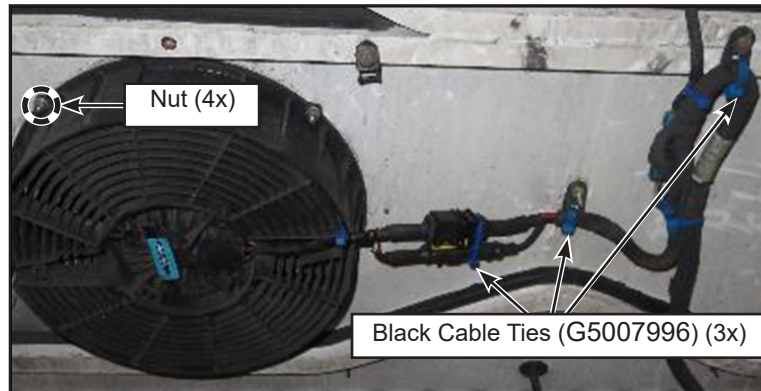

Figure 20 - Black Cable Ties Securing the Fan Wiring at Harness Side
- 1.36. Remove and retain the four nuts around the fan and rotate it clockwise (**for the aluminum door configuration**) (see figure 20) to have the engine door fan routed horizontally wiring at the middle right and reinstall the four fan nuts.
- 1.37. Secure the wiring at the connectors and on the aluminium door at harness side with black cable ties PN G5007996 (3x) (see figure 20).